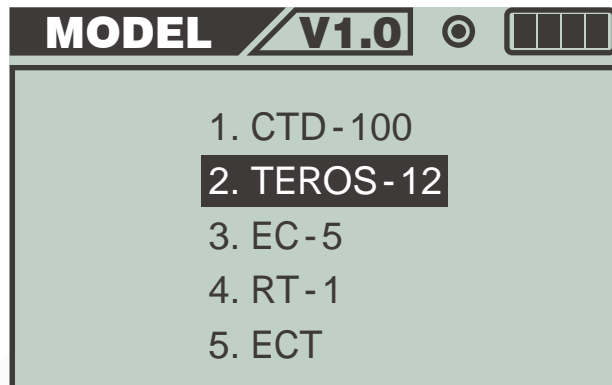

Figure 5. Sensor type selection of the well depth detector KLS-2300.
■ This icon ① represents the type selection of the sensor, and the black icon box indicates the current selection. Press ▲ or ▼ on the button menu to switch icons. After selecting the first icon, press Enter on the button menu to enter the sensor type selection interface as shown in Figure 5.